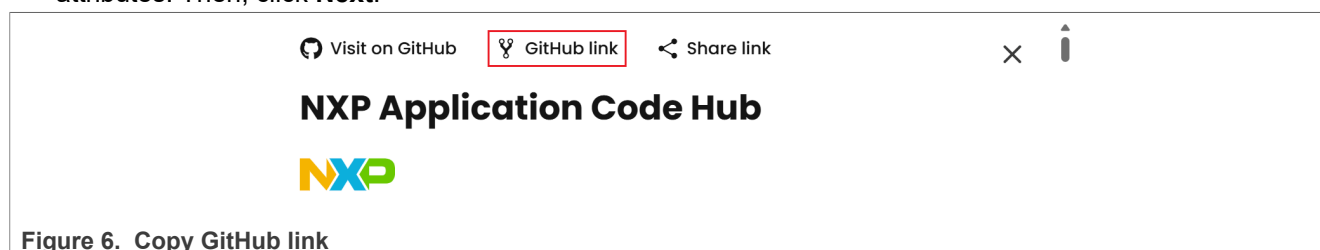

Figure 6. Copy GitHub link
3. Click the **GitHub link** icon, as shown in Figure 6. MCUXpresso IDE automatically retrieves project attributes. Then, click **Next**.